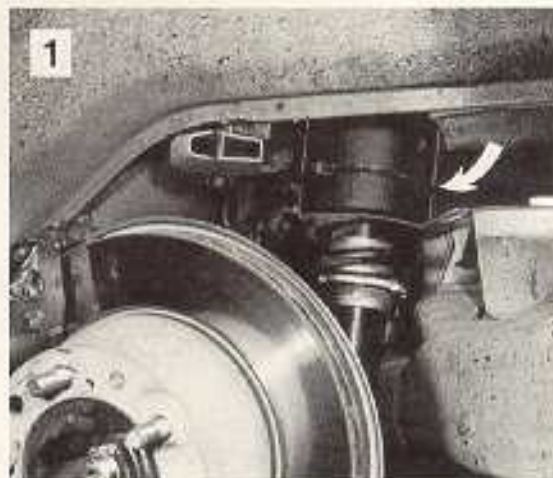
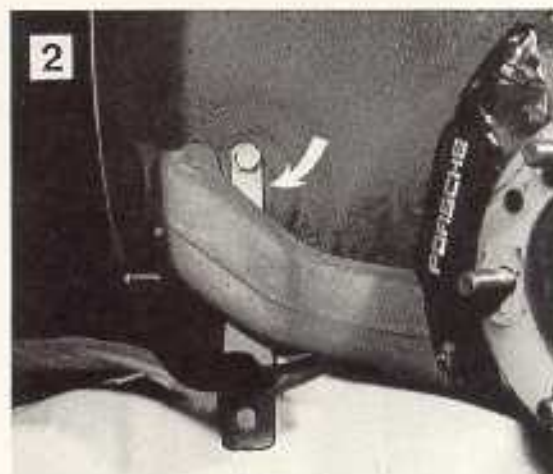

Figure 1
Figure 2
The spring blocks (Figure 1) and transportation hooks (Figure 2) must be removed after the dealer receives the car.
- cut nylon strap (arrow in Figure 1) and remove spring blocks.
- remove transportation hooks (arrow in Figure 2) and close the threaded holes using the plugs supplied with the vehicle.